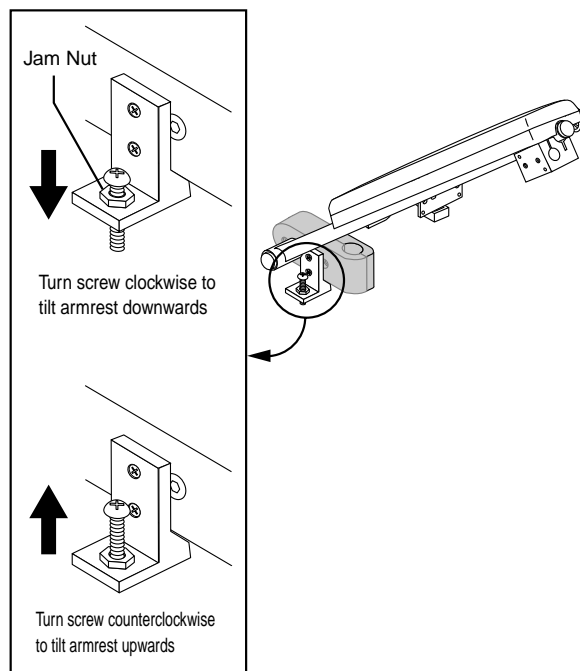

Figure 9. Flip-up Armrest Angle Adjustment
1. Flip the armrest up and out of the way. See figure 9.